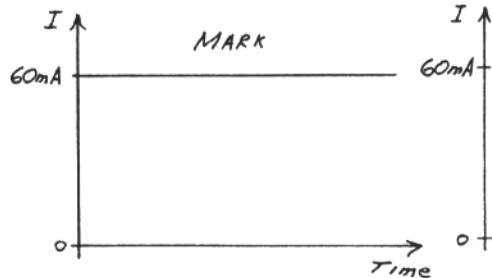
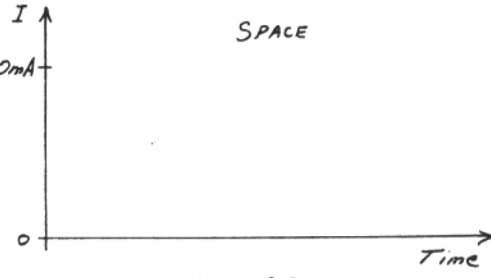

Fig. 2A
Fig. 2B
When the contacts are closed, the meter reads 60 mA. When the contacts are open, the meter reads zero. (Closed contacts correspond to a Mark, and open contacts correspond to a Space.) Figure 2A shows current (I) versus time for a steady Mark, and Figure 2B for a steady Space. These pictures are as would be seen on a dc oscilloscope.